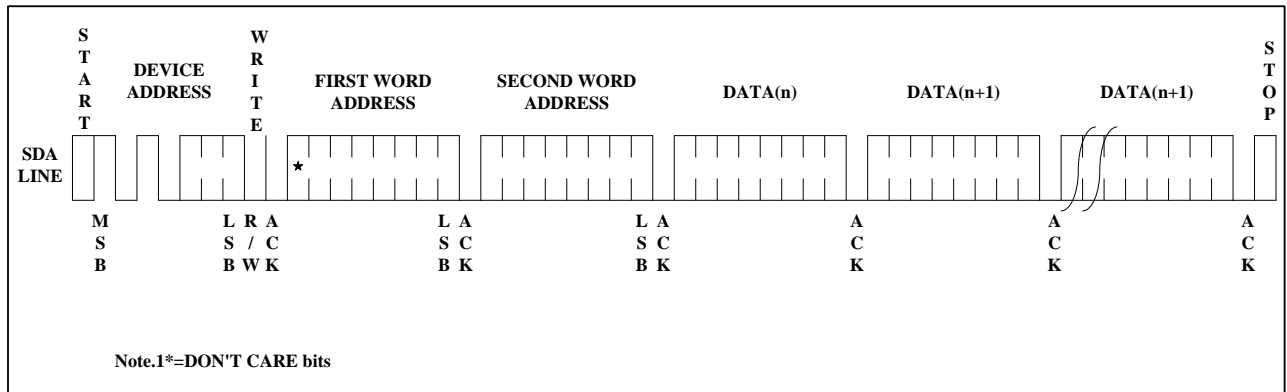

Figure 8. Page Write
**PAGE WRITE:** The 256K EEPROM is capable of a 64-byte page writes. A page write is initiated the same as a byte write, but the microcontroller does not send a stop condition after the first data word is clocked in. Instead, after the EEPROM acknowledges receipt of the first data word, the microcontroller can transmit up to 63 more data words. The EEPROM will respond with a “0” after each data word received. The microcontroller must terminate the page write sequence with a stop condition (see **Figure 8**).